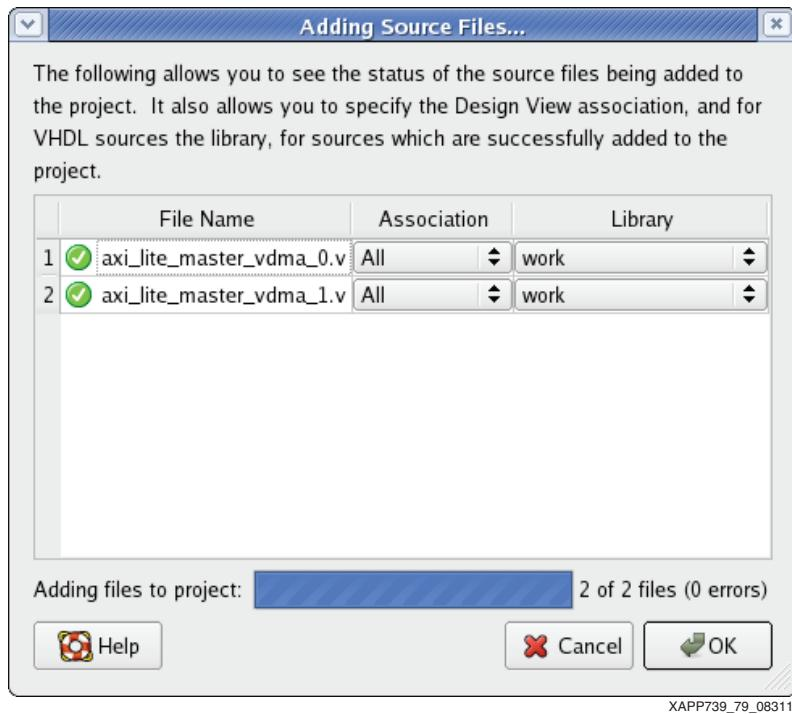

Figure 79: New Source File Association Selection
74. In the Association pull-down menu, select **All**. Under Library, select **work** and click **OK**. This associates the source code for simulation and synthesis. These files can be browsed in Project Navigator by double clicking them to view the source code for an example AXI4-Lite master. The source code also describes which AXI VDMA register accesses are generated to configure the AXI VDMA control registers for proper operation (Figure 79).